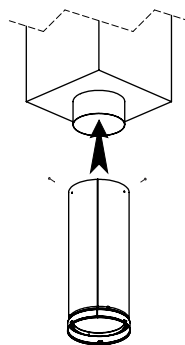

Figure 4
• Built In Flue Extension (Figure 4)